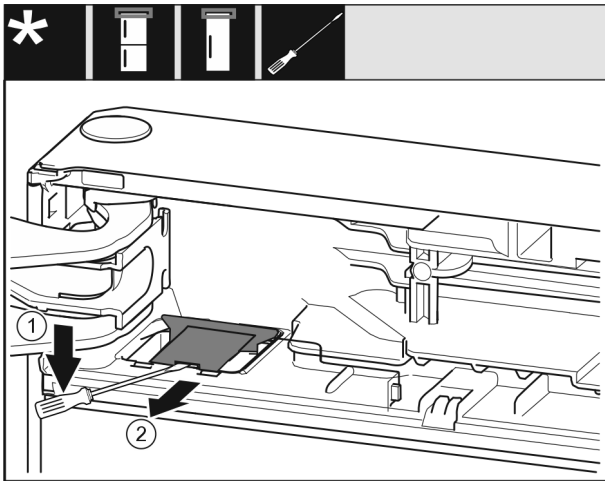

Fig. 11
- ▶ Unlatch the cover with a slotted screwdriver and lift it up. Fig. 11 (1)
- ▶ Take out the cover. Fig. 11 (2)